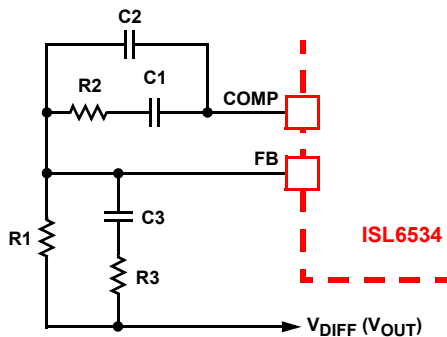

FIGURE 15. COMPENSATION CONFIGURATION FOR ISL6534 CIRCUIT
2. There is a restriction on the size of capacitor C2 (see Figure 15; this is the single capacitor from COMP to FB); it is recommended that the capacitor C2 be kept to less than 500 pF. During start-up, with low voltages and limited slew rate, the smaller value will allow for adequate drive current capability. Some designs can and do work with higher values; there are other factors that can affect the performance; this recommendation just minimizes the chances of a start-up problem.
This section highlights the design consideration for a voltage-mode controller requiring external compensation. To address a broad range of applications, a type-3 feedback network is recommended (see Figure 15).
The compensation network consists of the error amplifier (internal to the ISL6534) and the external R1-R3, C1-C3 components. The goal of the compensation network is to provide a closed loop transfer function with high 0dB crossing frequency (F_0 ; typically 0.1 to 0.3 of F_{SW}) and adequate phase margin (better than 45degrees). Phase margin is the difference between the closed loop phase at F_{0dB} and 180° . The equations that follow relate the compensation network's poles, zeros and gain to the components (R1, R2, R3, C1, C2, and C3) in Figure 15. Use the following guidelines for locating the poles and zeros of the compensation network: